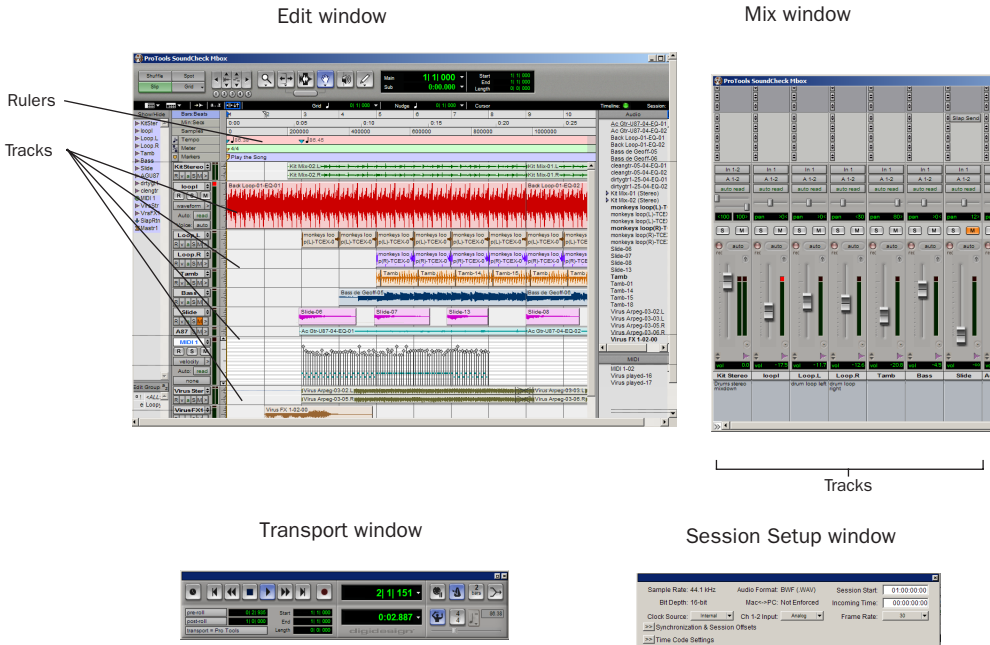

Figure 7. Main session windows
- 6 Click Save. The new session opens its Mix, Edit, and Transport windows (see Figure 7 on page 72).